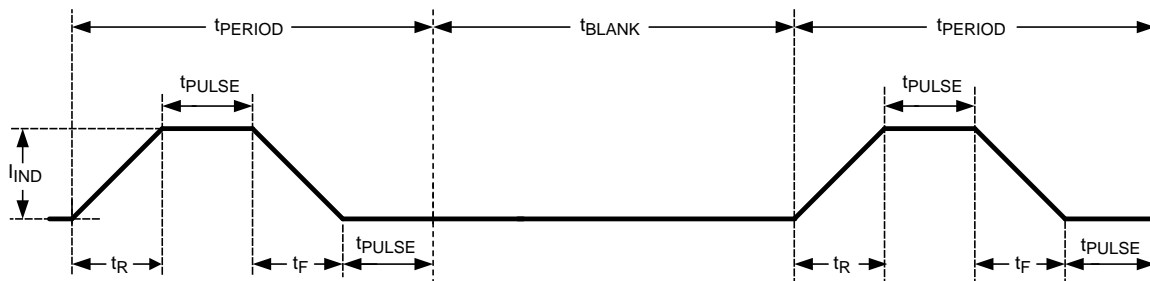

Figure 42. Message Indicator Timing Diagram
3. Ramp times for turnon and turnoff of the indicator current source (see Figure 42 for the message indicator timing diagram).
– (see Figure 42)